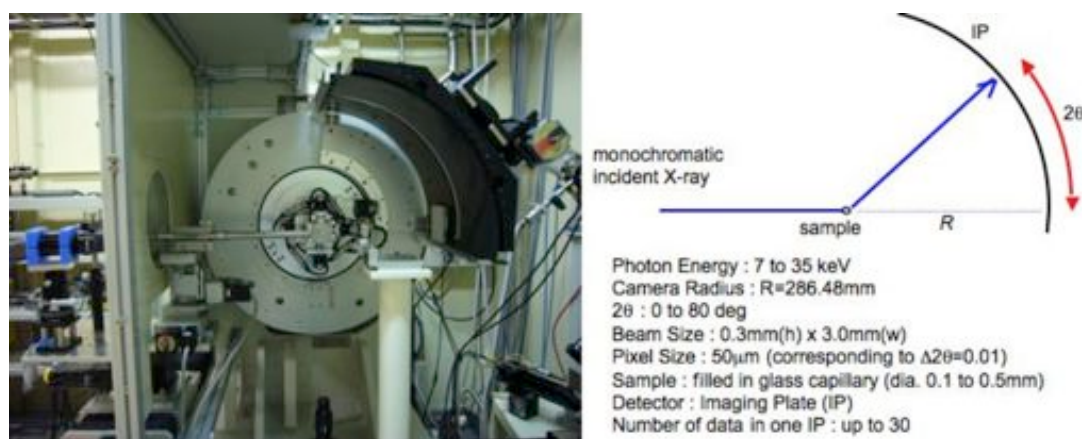

Fig. 2. The large Debye-Scherrer camera at BL19B2.
promote the industrial application of the synchrotron radiation. The beamline has three experimental hutches for several kinds of experiments, including X-ray imaging, X-ray diffraction, and small-angle X-ray scattering. X-ray powder diffraction experiments are performed using the large Debye-Scherrer camera (Fig. 2) at the second experimental hutch. This camera was designed for accurate structure analysis. The basic specification of the large Debye-Scherrer camera installed at BL19B2 is the same as the one at BL02B2 of SPring-8. Imaging plates (IP) are used as 2-dimensional detectors. Users can change the sample temperature in the range of 100–1000 K by using a heater and a cryostat. These apparatuses utilize flowing nitrogen gas to control the sample temperature.